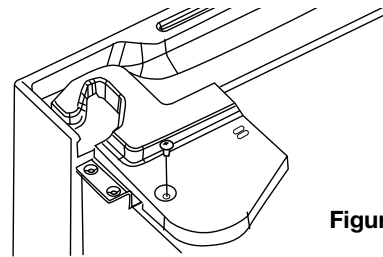

Figure 20
- Assemble the Replacement Top Hinge Cover to the Top Hinge using the screw removed from factory fitted Top Hinge Cover. (Fig. 20)